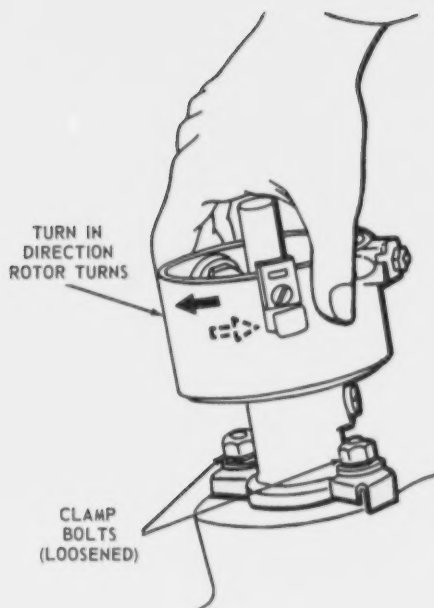

Fig. 69—Turning Distributor Body
8. Loosen clamps holding distributor to engine block (Fig. 69).
9. Turn the distributor body slowly in the direction the rotor normally turns (Fig. 69). You observed the rotation of the rotor in step 4. This procedure retards the time the breaker points open and makes sure the points are completely together.